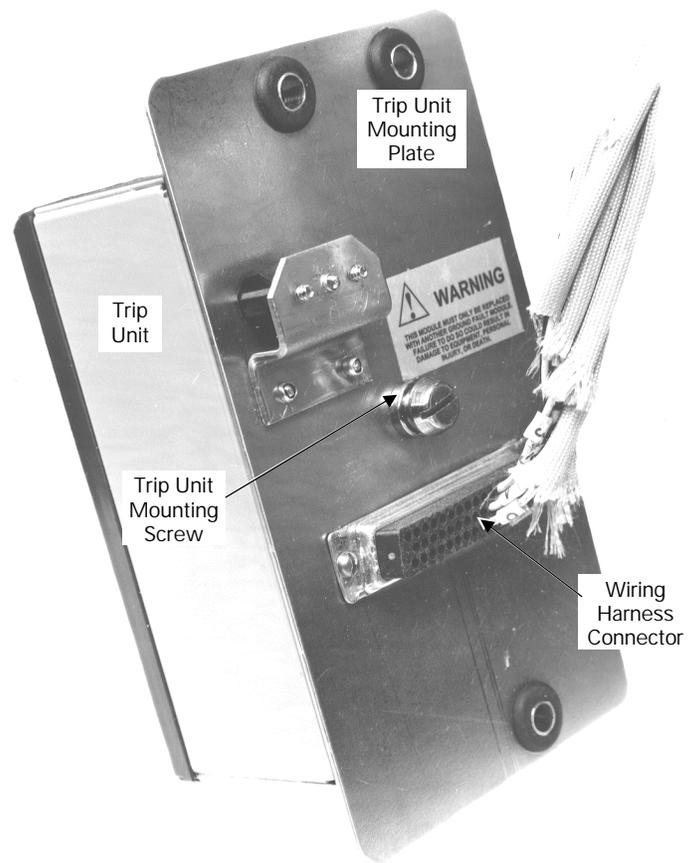

Figure 16. Attaching the trip unit to the mounting plate.
1. Remove the large screw from the rear of the trip unit. Place the trip unit in position on the mounting plate, with the 50-pin connector aligned with the opening in the plate. Secure with the large screw, as shown in Figure 16.
2. Insert the 50-pin female connector on the wiring harness into the trip unit connector through the rear of the mounting plate. Secure to the mounting plate with the two small screws provided, as shown in Figure 16.